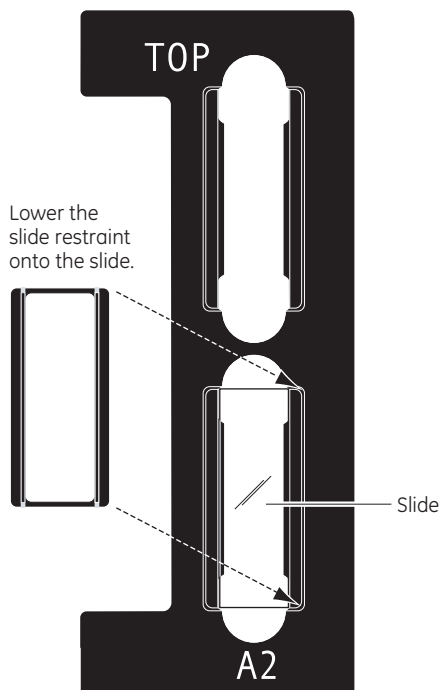

Fig 8-6. Positioning the slide restraint on the slide holder.
- 7 Place a slide restraint over each slide as shown in fig 8-6. Make sure each restraint is correctly positioned in the grooves on the slide holder.